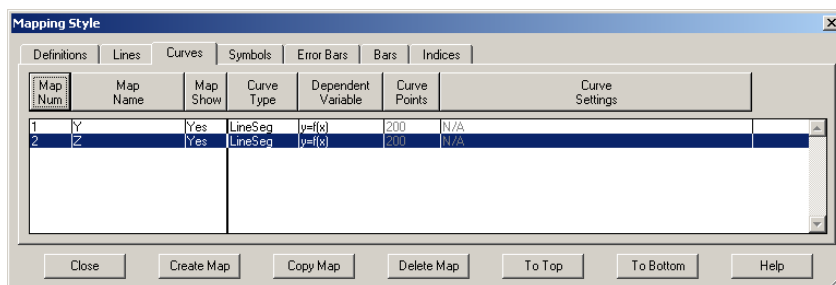

Figure 8-18. The Curves page of the Mapping Style dialog.
3. By default, linear fits use all the points in the mapping, weighting them equally. Use the Curve Fit Settings dialog to specify different settings. The dialog is shown in Figure 8-18.